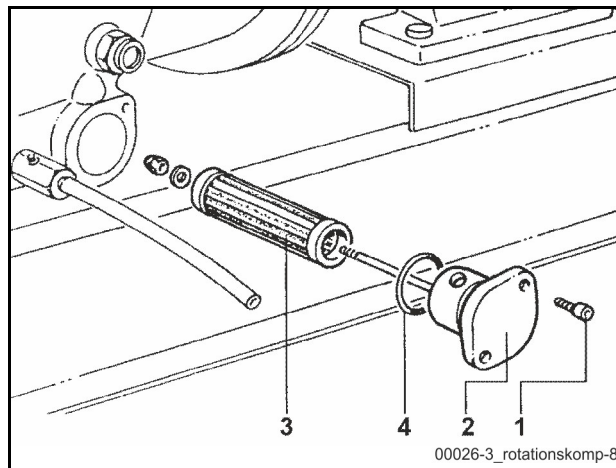

Fig. 366 Oil filter
- Loosen the screws **(1)** on the filter cover **(2)** **(Fig. 366)**.